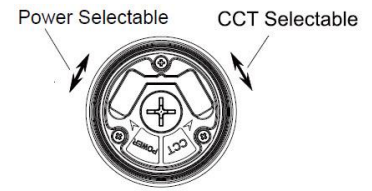

Figure 1
- 4: Use selector switch to choose CCT and Wattage setting. (Figure 1)